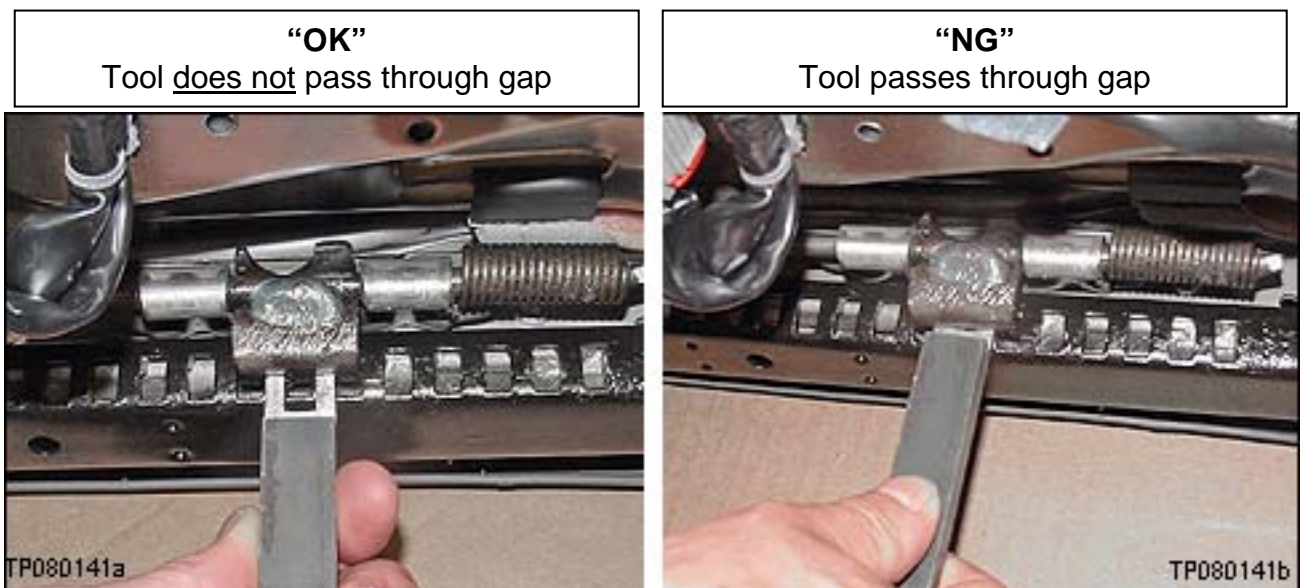

Figure 14
- c. Use the special tool (J-49387) to check the “Pawl to Track gap” as shown in Figure 14.